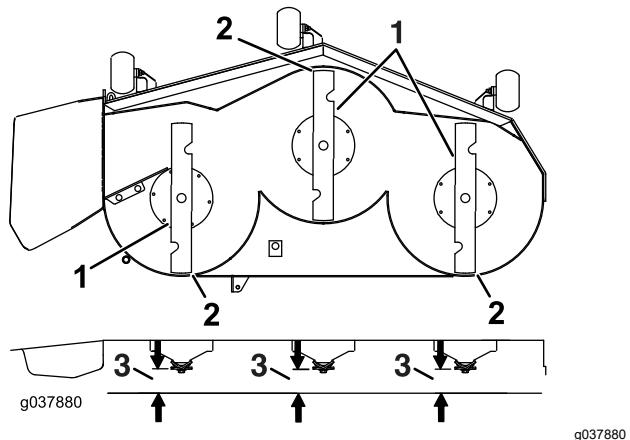

Figure 91
7. Check the front-to-rear blade level (Figure 91). Ensure the front blade tip is lower than the rear blade tip as shown in the block height and rake table. If adjustment is needed, continue with this procedure.